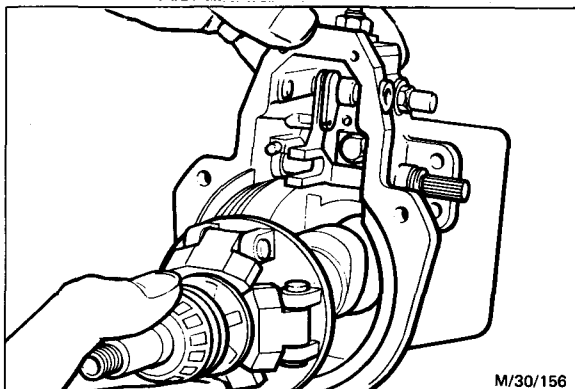

Fig. 36 - Removing the Camshaft (Dorset Shown)
41. Withdraw the camshaft and governor weights assembly from the cambox (Fig. 36). Place the complete assembly to one side for further dismantling and inspection.